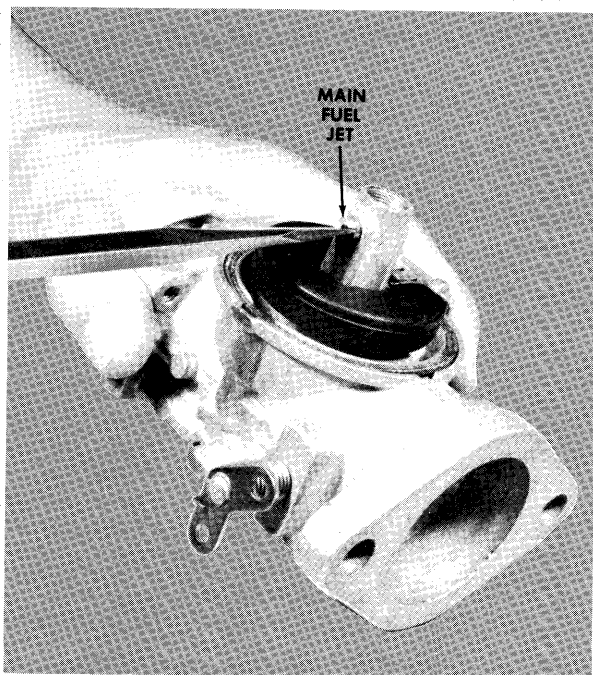

Figure 2—Removing Main Fuel Jet
- B. Remove main fuel jet as shown in figure 2.
- A. Install main fuel jet as shown in figure 2.